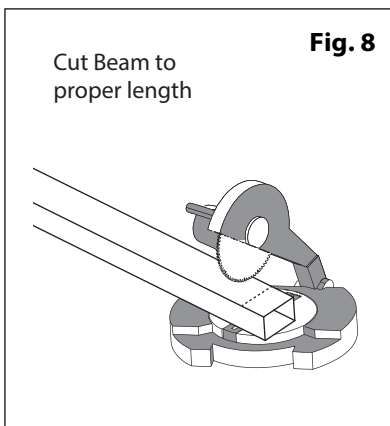

Fig. 8
2. Mark the upper beam and, if needed, carefully cut it to the measurement from step 1 using the metal saw. See Figure 8.